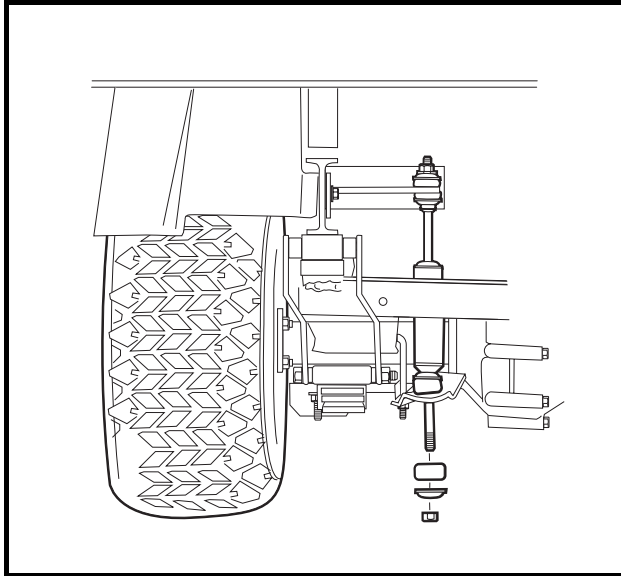

Figure 19-20 Shock Absorbers
6. Remove the lower shock mounting hardware from both rear shocks (**Figure 19-20, Page 19-10**).